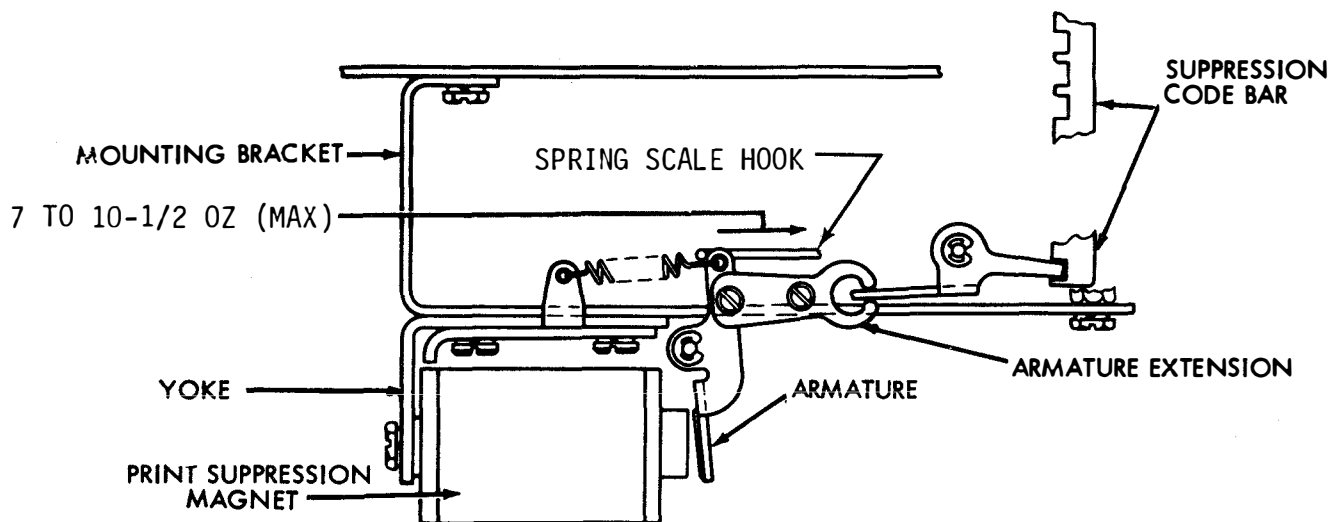

Figure 6-416. Print Suppression Code Bar Position and Suppression Magnet Armature Return Spring, Left Side Top View
(a) Refer to Figure 6-416.
(2) Print Suppression Magnet Armature Return Spring. Adjust as follows:
- (a) Refer to Figure 6-416.
(3) Type Box Clutch Trip Lever. Adjust as follows: